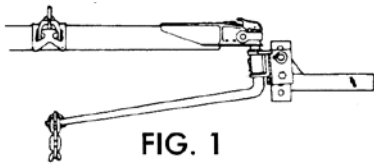

FIG. 1
- 4** Rivet (12a) and 8 spacer washers (12b) are supplied in order to gain correct downward angle of spring bars. Insert rivet, and depending on angle or slope of bars that must be gained, use either 8 or the least amount of washers necessary in order to establish correct angle. (See Fig. 1, 2, and 3 below.)